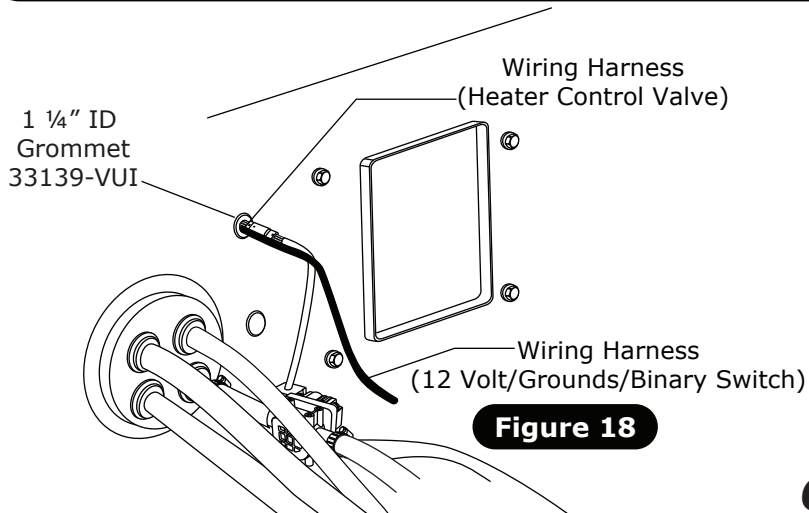

Figure 18
2. Route A/C wires (12 volt/grounds/binary switch/heater valve) through 1 1/4" grommet as shown in Figure 18, below.